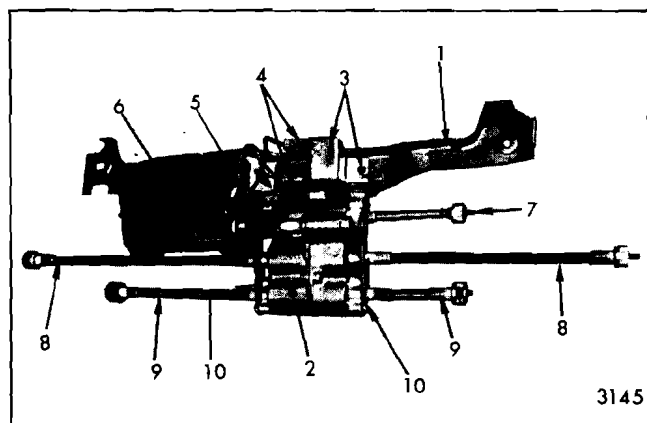

Fig. 15-23—Six-Way Seat Adjuster Motor, Transmission, Cable and Support Assembly
3. From under front of seat, remove transmission cable end plate attaching screws (Fig. 15-23 and 15-24); then, slide end plate up cables sufficiently to disengage rear vertical cable from end plate.
4. To remove horizontal and/or front vertical cable(s), remove seat adjuster on side from which cable(s) is being removed. Remove transmission end plate attaching screws (Figs. 15-23 and 15-24); then, slide end plate up